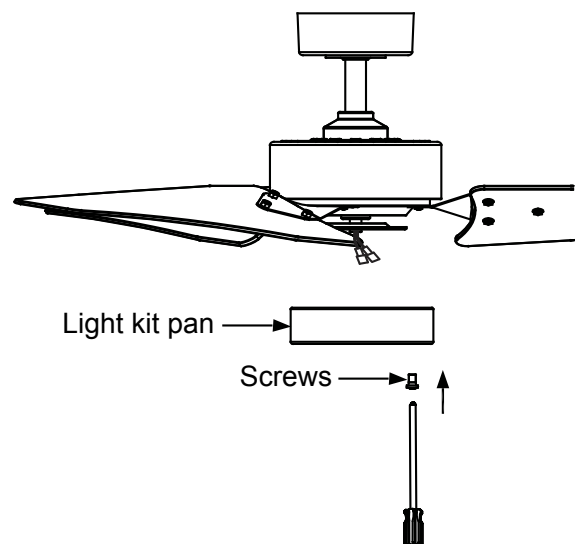

Fig. 19
Step 2. Push the light kit pan up to the fan motor assembly so that the two loosened screw heads fit into the keyholes slots. Turn the light kit pan clockwise. (Fig. 19)
Step 3. Re-install the screw that was removed in step 1. (Fig. 19)